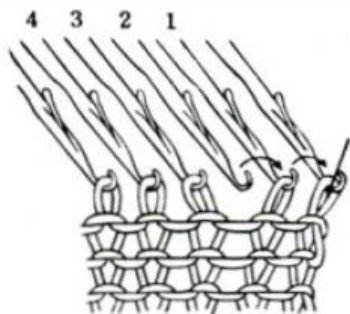

Fig. 56
- a. Use 3 needle transfer tool, move the stitches out to the adjacent empty needles. (See Fig. 56)
- b. To fill in empty needle pick up stitch from either side of empty needle on lower row. (See Fig. 56~59)